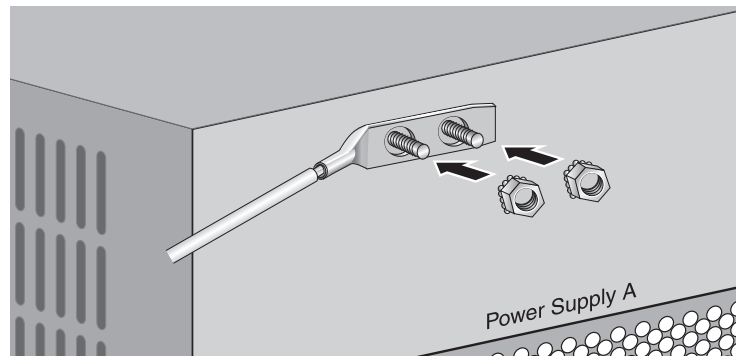

Figure 5. Securing the Ground Lug with Two M5 Lock Nuts
3. Secure the ground lug with the two M5 lock nuts provided, as illustrated in Figure 5.